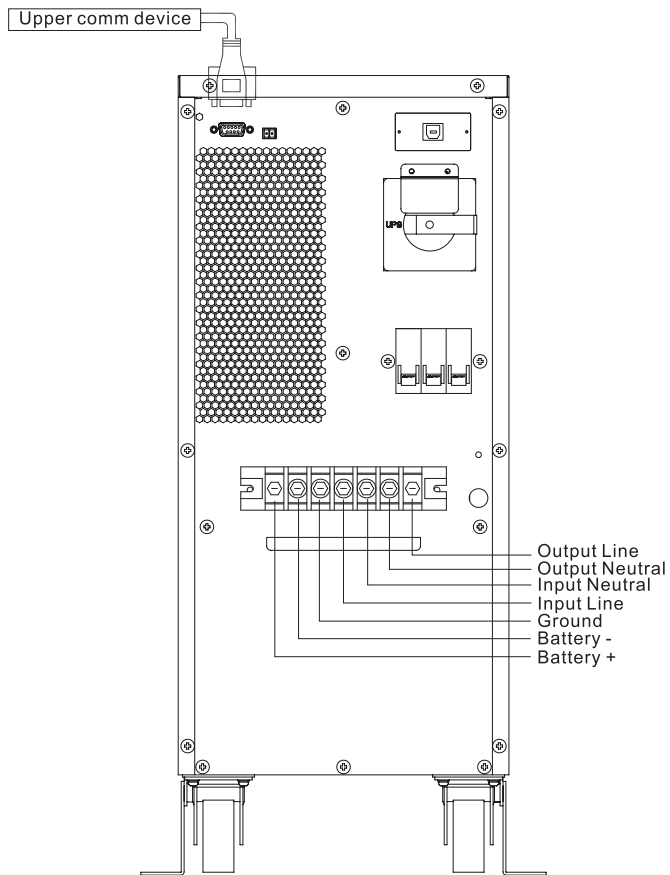

Figure3-9 Wiring diagram of 10kVA (S)
In the 10kVA(S) series UPS, the input, output and battery adopt the terminal bar. The wiring for the 10kVA(S) series UPS is as shown in Figure3-9.